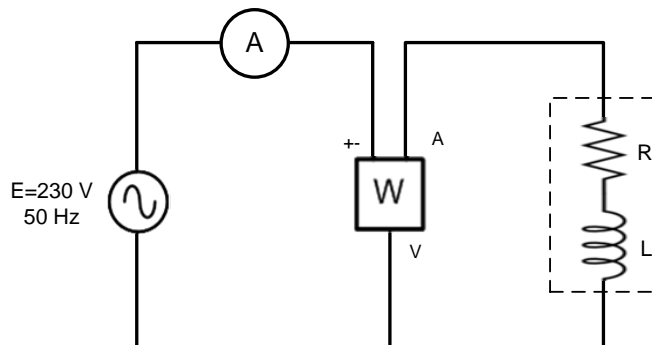

Figure 3.1
- (c) An unknown R-L load is connected to a single phase supply with  $E=230V$ ,  $50Hz$ . An ammeter and a wattmeter are used to measure the line current and power of the circuit as shown in Figure 3.1. If the ammeter reading is  $3.5 A$  and the wattmeter shows  $540 W$ , calculate the following: